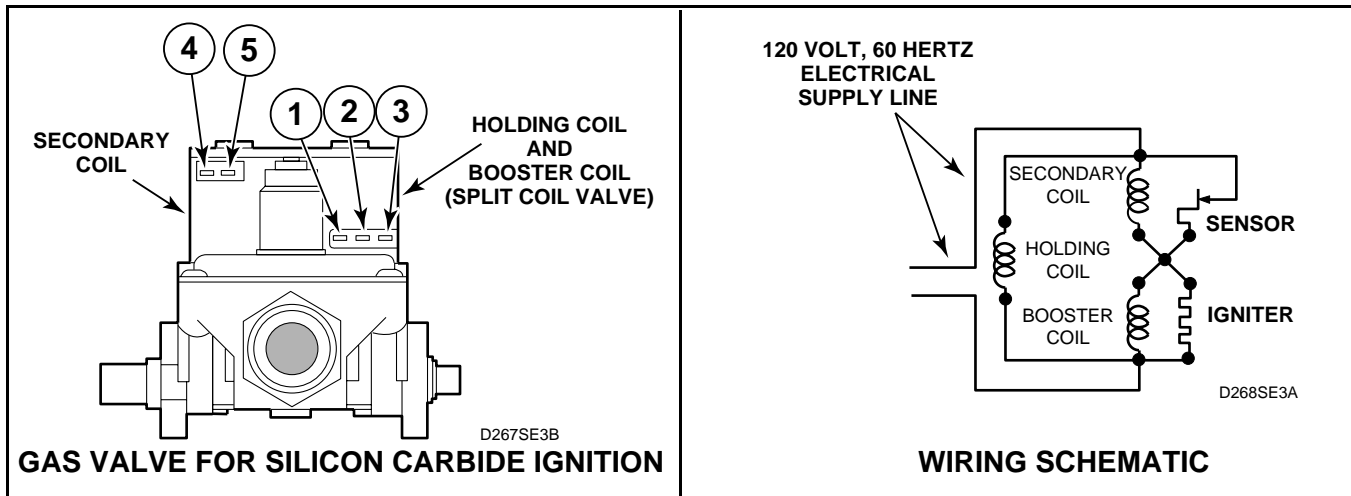

Figure 38
(Figure 38)
55. BURNER SYSTEM OPERATION – SILICON CARBIDE IGNITION (Figure 38)
- Set test meter to read AC voltage and apply meter probes into terminals on the dryer harness plug that would correspond to terminals 1 and 2 on the coil. See *Figure 38*. Meter should register line voltage in all Fabric settings, except FLUFF which should read “zero” VAC.